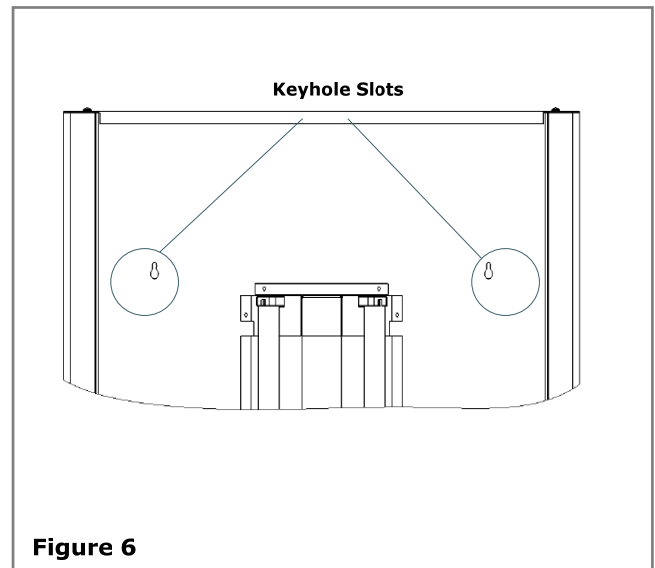

Figure 6
1. With the acrylic sheet removed, hold the unit against the wall in the desired location and mark the positions of the mounting screws through the tops of the keyhole slots in the back of the unit. **See Figure 6.**